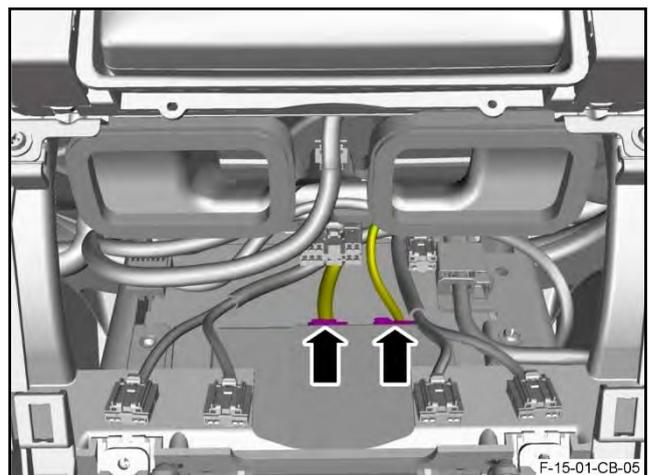

Figure 53
64. Disconnect the two electrical connectors from the Infotainment Control Module (ICM) (refer to Figure 53).